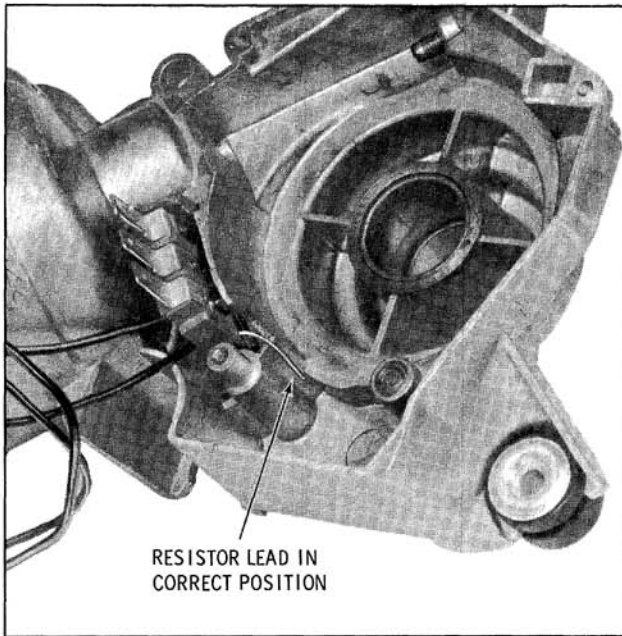

Fig. 13-186 Positioning Resistor Lead
2. Slide terminal board into wiper housing being careful to position the terminal board resistor lead as shown in Fig. 13-186.